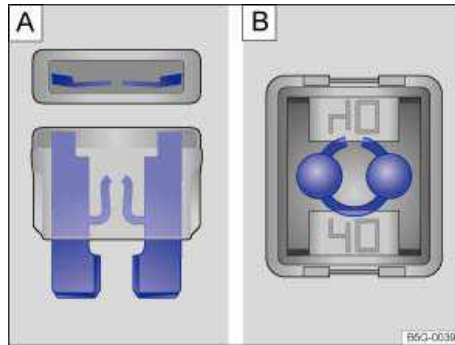

Fig. 180 Blown fuse: A: Blade fuse. B: JCASE® fuse.
- A blown *blade fuse* (ATO®, MINI®) has metal strips that have burned through, which you can see through the transparent housing from above and from the side ⇒ fig. 180 A.
- A blown *cartridge fuse* (JCASE®) has metal strips that have burned through, which you can see through the transparent housing from above ⇒ fig. 180 B.